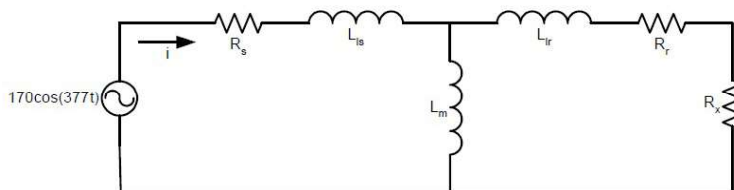

Figure 4.1 A Circuit model for one phase of an induction motor being driven by the utility
1. Figure 4.1 shows a circuit model for the utility supplying one phase of an ac induction motor. The motor system parameters are  $R_s = 0.08 \Omega$ ,  $L_{ls} = 1 \text{ mH}$ ,  $L_m = 40 \text{ mH}$ ,  $L_{lr} = 1 \text{ mH}$ ,  $R_r = 0.1 \Omega$ , and  $R_x = 33 \Omega$ . If the utility voltage is  $170 \cdot \cos(377t)$ , i) what is the current into the motor? and ii) At what power factor is the motor operating?